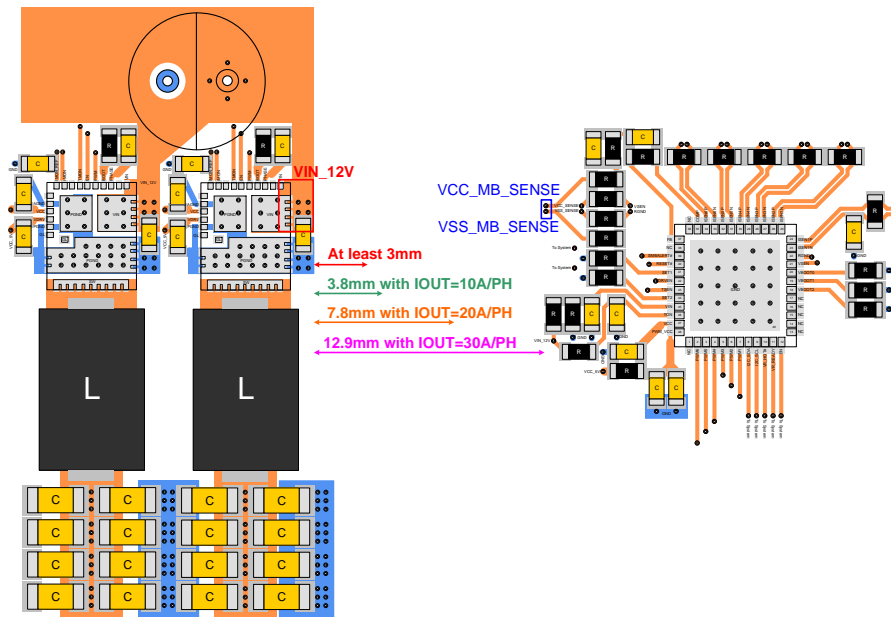

Figure 27. The Spacing from Power Stage to Peripheral Circuit of Controller
- ▶ RGND via is very sensitive to noise and needs attention. The magnetic field generated by fast changing signal in a via can induce a stronger electromotive force on a neighboring via. Therefore, the spacing from VIN Plane to RGND via shall keep at least 3mm that is proportional to IOUT. For more information, please refer to Figure 27.